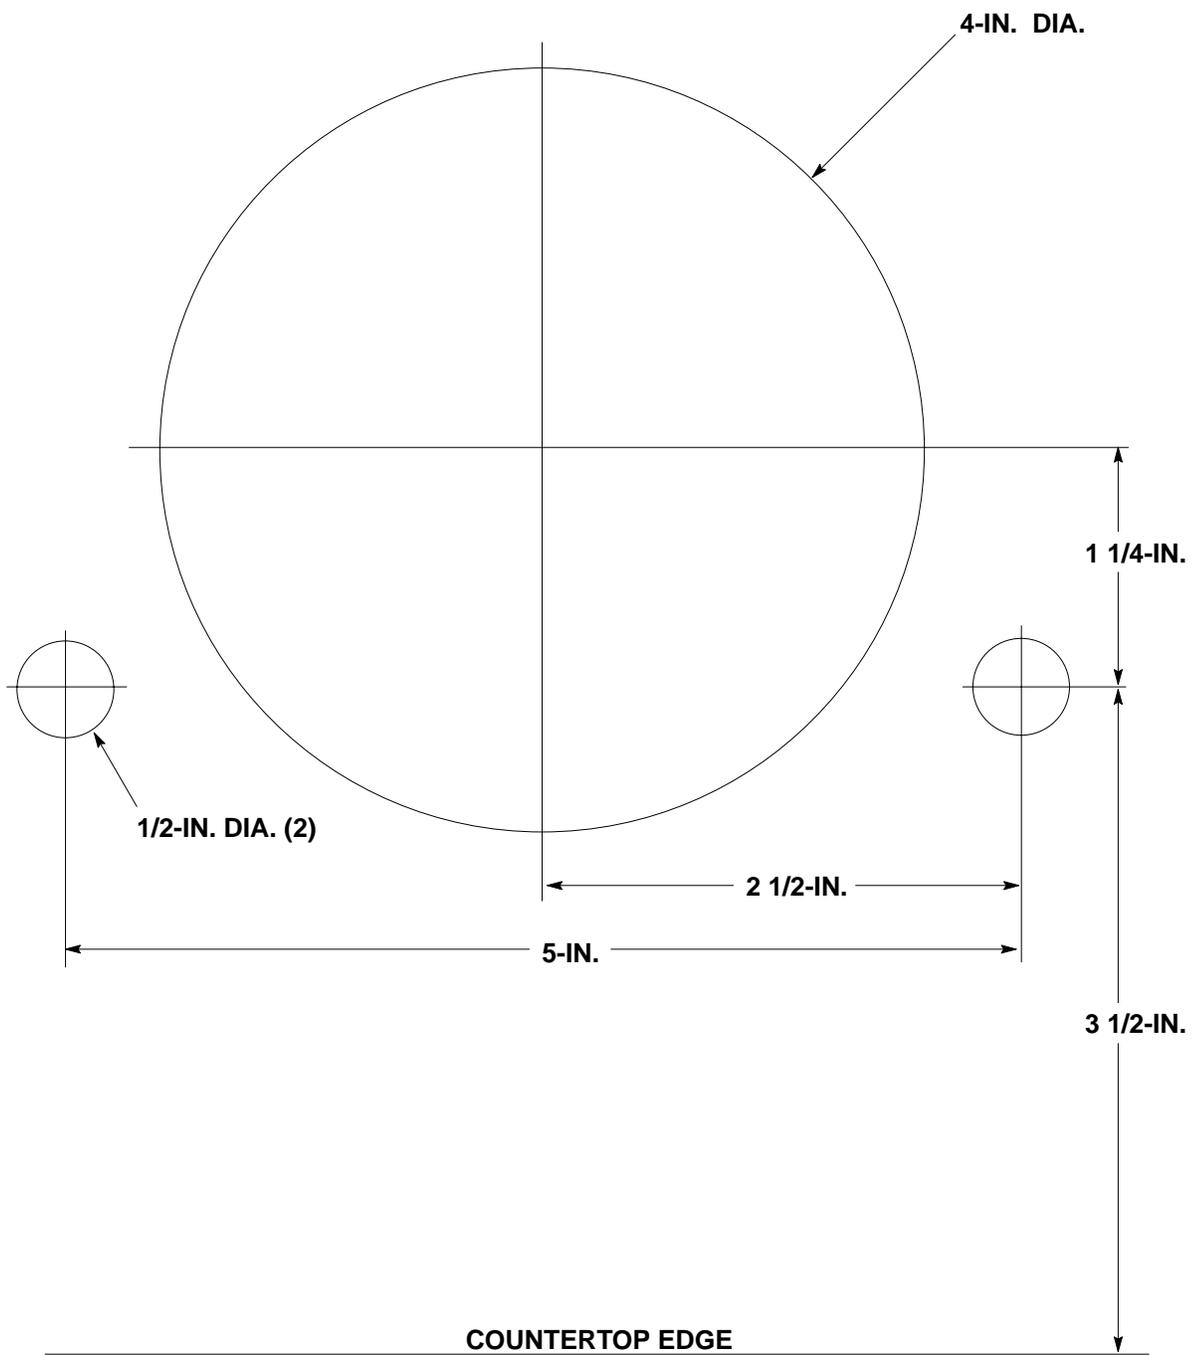

FIGURE 4. MOUNTING TEMPLATE
1. Place and tape mounting template (see Figure 4) in position on countertop.
4. Install DRAIN HOSE (item 2) on drip tray drain fitting and secure with DRAIN HOSE CLAMP (item 1).